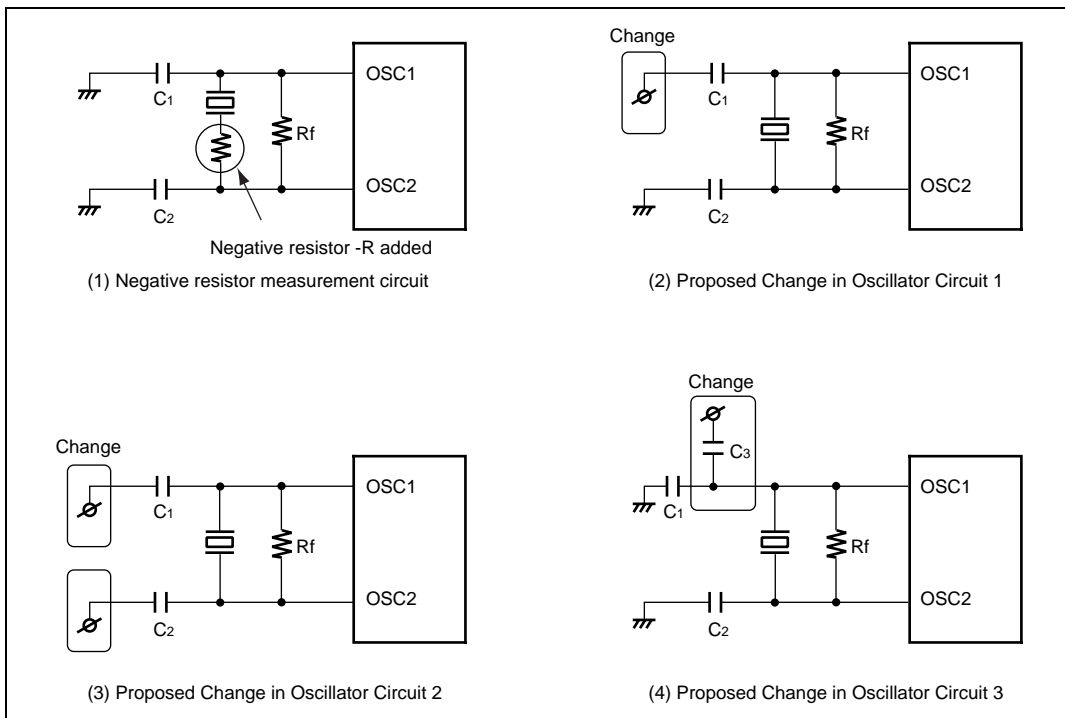

Figure 4.14 Negative Resistor Measurement and Proposed Changes in Circuit
Figure 4.14 (1) shows an example of the measurement circuit for the negative resistor which is recommended by the resonator manufacturer. Note that if the negative resistor in this circuit does not reach the level which is recommended by the resonator manufacturer, the main oscillator may be hard to start oscillation.
If the negative resistor does not reach the level which is recommended by the resonator manufacturer and oscillation is not started, changes as shown in figure 4.14 (2) to (4) should be made. The proposed change and capacitor size to be applied should be determined according to the evaluation result of the negative resistor and frequency deviation, etc.